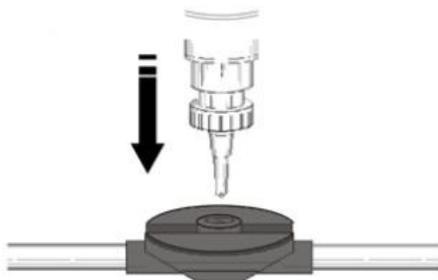

Figure 6a: Split Septum Injection Site
- Use a 21 gauge or smaller conventional metal needle or an approved plastic anti-stick needle (i.e.: Medisystems MEDIC®) for intermittent sampling of blood or administering medication. See Figure 6a.